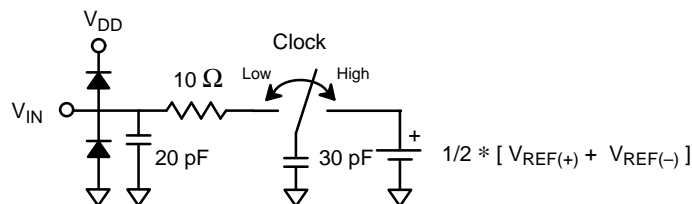

Figure 5. Analog Input Equivalent Circuit
- ⁴ See V_{IN} input equivalent circuit (*Figure 5*). Switched capacitor analog input requires driver with low output resistance.